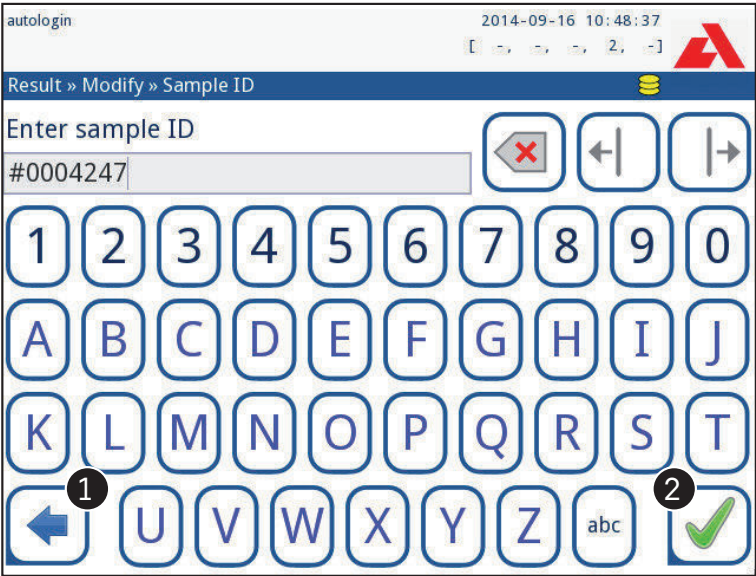

Figure 23: Sample ID input
Once the default Sample ID is modified, the user can either cancel the change by tapping **Drop&Back** (❶ in Figure 23) or store the modified Sample ID with the record by tapping **Apply&Next** (❷ in Figure 23).